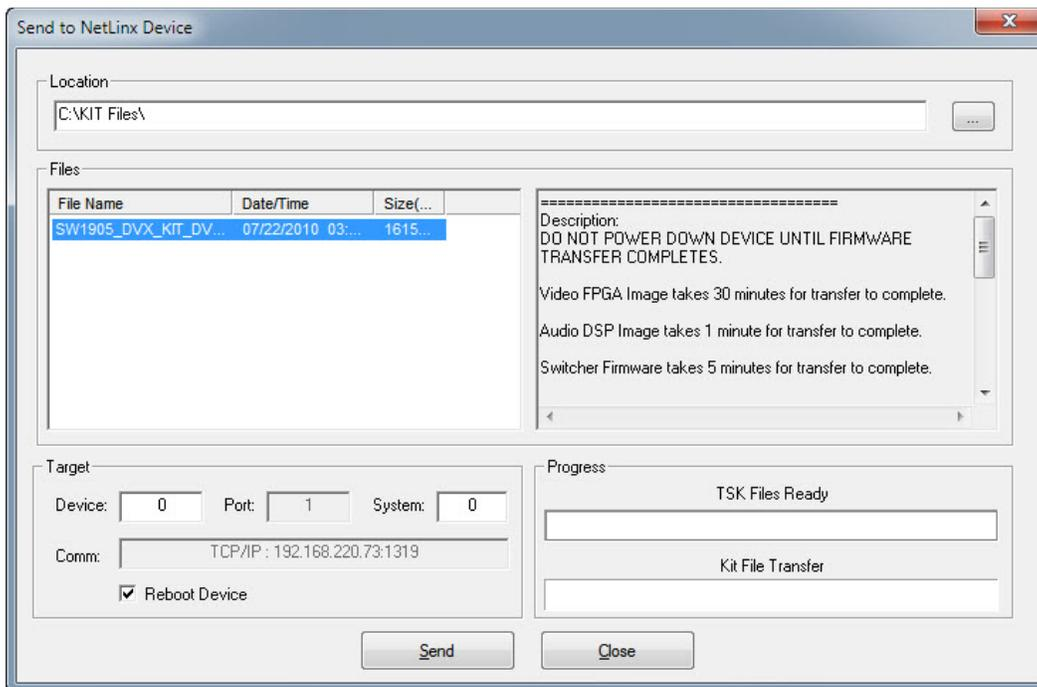

FIG. 104 Send to NetLinX Device dialog box (NetLinX Studio)
- Assuming that the specified target directory contains one or more KIT files, the KIT files in the selected directory are displayed in the Files list box, with the file's last modified date and time (FIG. 104).